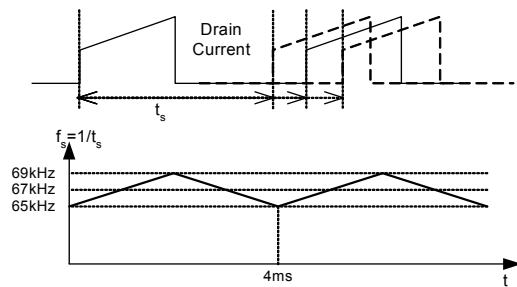

Figure 9. Frequency Modulation Waveform
7. Frequency Modulation : Modulating the switching frequency of a switched power supply can reduce EMI. Frequency modulation can reduce EMI by spreading the energy over a wider frequency range than the bandwidth measured by the EMI test equipment. The amount of EMI reduction is directly related to the depth of the reference frequency. As can be seen in Figure 9, the frequency changes from 65kHz to 69kHz in 4ms for the FSDM0265RNB. Frequency modulation allows the use of a cost effective inductor instead of an AC input mode choke to satisfy the requirements of world wide EMI limits.